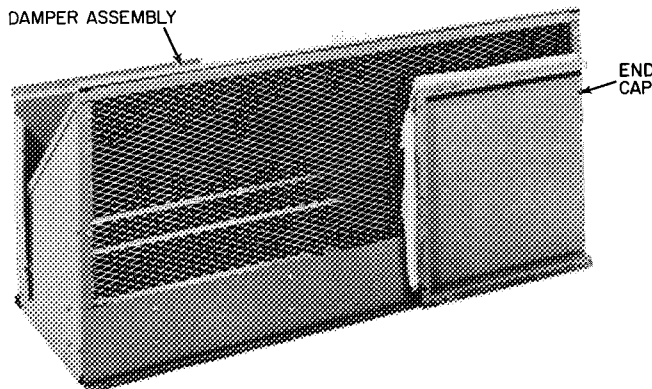

Fig. 1 — Accessory Relief Damper
3. Two end caps are shipped screwed to damper assembly (Fig. 1). Remove end caps and replace screws in holes.